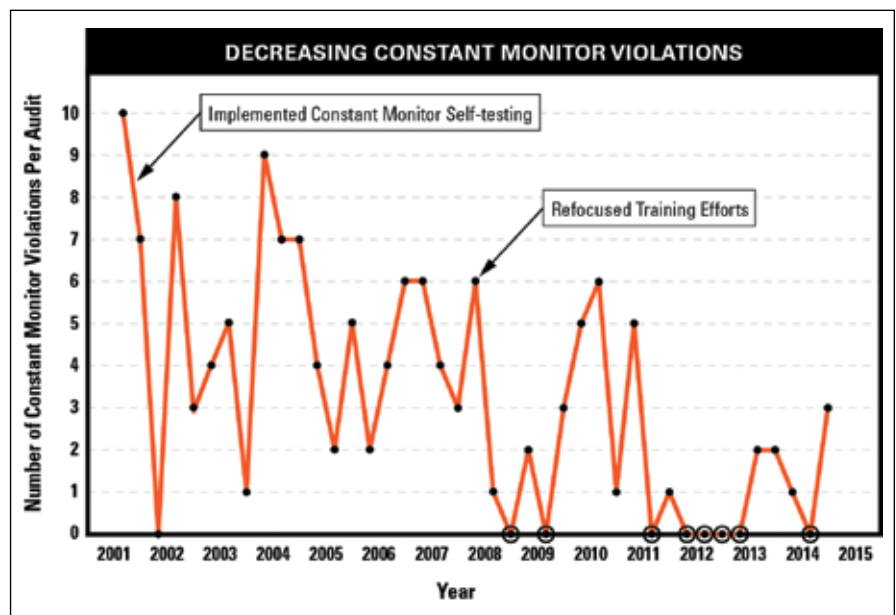

Figure 2: Decreasing constant monitor violations
**Monitors:** Another discipline improvement example includes the requirement for operators to test their wrist strap constant monitors each time they plug into them. GD-MS employs wrist strap constant monitors at all locations where ESDS items are handled. Prior to the implementation of this requirement, we had observed constant monitor equipment failures that typically totaled 10 per audit during the external audits and certifications. The training/auditing closed loop system was used to educate operators to perform simple tests each time they plug into them to ensure that the constant monitor was working correctly. We found that an even further improvement in audit scores was realized when the requirement for testing the constant monitor was increased from once per shift to every time they plug in. Constant monitor violations are now always close to zero during the recurrent audits with that operator self-testing in place. Figure 2 illustrates the results stemming from this change.